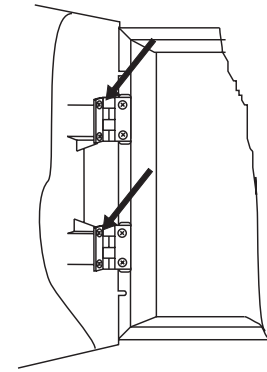

Figure 3
- Remove the front cover as first disconnect the flat-cable for panel indication. After that unscrew the hinge bolts on the side of the front panel - Figure 3. (Note: You can unscrew and the hinge bolts on the side of the metal box. The special here is the presence of two plastic pads situated under the hinges. The pads have to be returned back under the hinges at closing the front cover.)